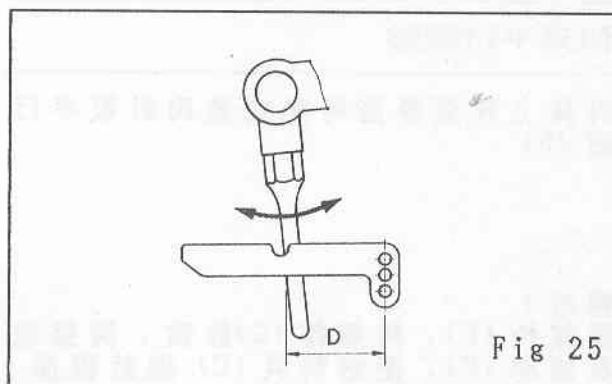

Fig 25
7-10mm (D) (Fig. 25)
10-15mm (D) (Fig. 25)